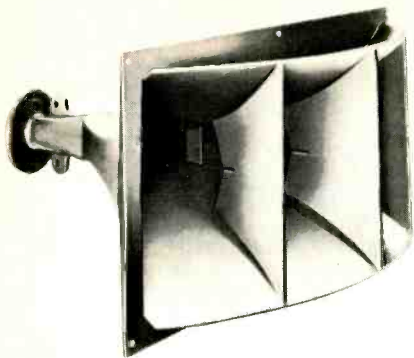
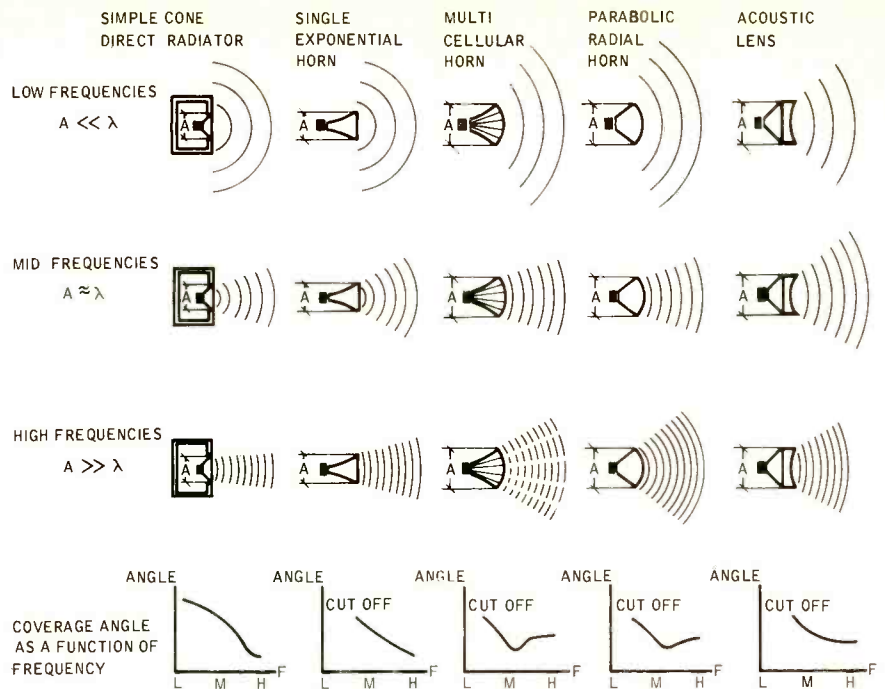

Fig. 3. Altec 5118 Sectoral Horn.
Fig. 4. Coverage of four types of horns. Characteristics of a direct radiator are shown for comparison.
was originally used in some of the Ravenswood models. For an 8-in. cone, a simpler reflector can be made by using a piece of Masonite hard-board 3 in. wide, and mounting it on triangular brackets in front of the cone, as shown in *Fig. 4*. The Masonite strip should be placed with its
Fig. 4. Simpler reflector recommended uses only a piece of Masonite hardboard set at a 45-deg. angle as shown at (A). For stereo speakers, both reflectors should face outward as shown at (B).
are an excellent guide to the horn's application in engineered sound systems.⁹ Similar "sectoral" horns are available from Altec Lansing, such as the model 511B horn shown in Fig. 3. Even the largest (RCA) horns of this type must be fairly small to ensure smooth response at high frequencies, smaller than one large multicellular horn but larger than individual cells; therefore, they are less directional at lower frequencies. However, they tend to be smoother in frequency response at the edges of their coverage patterns and do not have the "fingering" effects at high frequencies common to a multicellular configuration.¹⁰ Figure 4 compares the characteristics of several types.